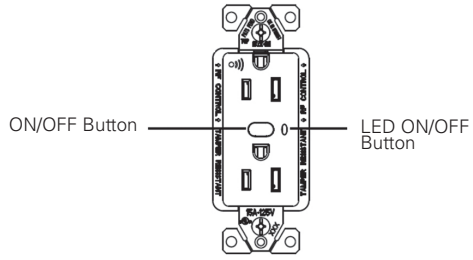

Figure 1 (For Reference Only)
2. Based on the controller, the controller may ask you to scan the QR code (Figure 1) or manually enter 5 digit code under the QR code to install the device as a secured device. You may find this QR code on the device or included in device packaging.